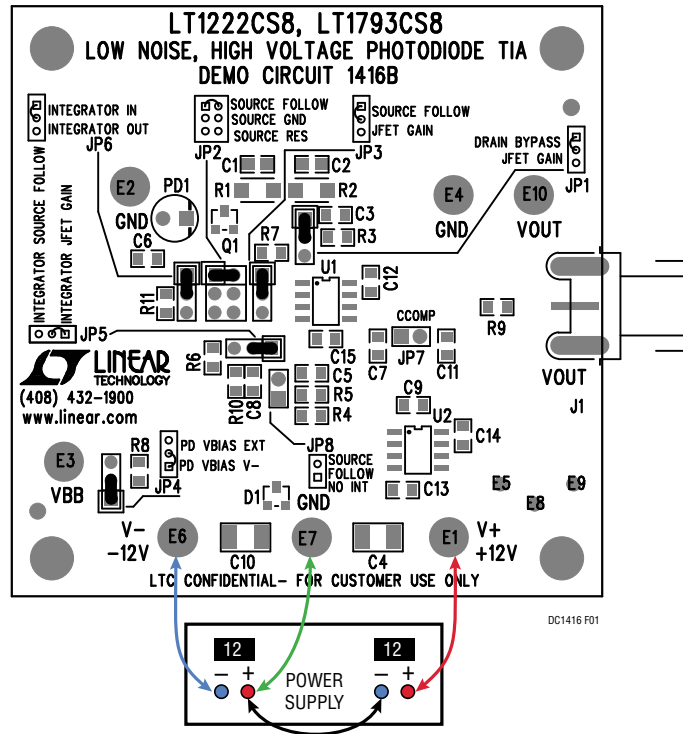

Figure 1. Proper Supply Connections. Board Is Shown for Source Follower with Integrator In (JP1 through JP6 Have Shunt in Position 1. JP7 and JP8 Are Open.)
Demonstration circuit 1416 is shipped with the jumpers set for source follower operation with the integrator in. If the jumpers have been changed, restore them to the positions shown in the schematic. Refer to Figure 1 for proper measurement equipment setup and follow the procedure below:
1. With power off, connect the +12V, -12V, and Com leads from the power supply to the V^+ , V^- , and GND terminals of the demo circuit, as shown in Figure 1.
4. You should now be able to wave your hand over the clear photodiode provided on the board (upper left of Figure 1) and see the effect in both DC signal and noise. With the photodiode in darkness, or removed from its socket, the output should sit near ground.